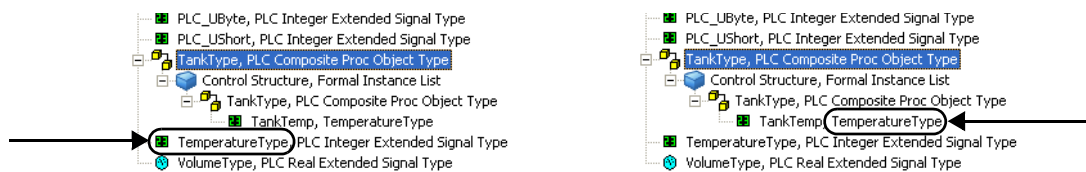

Figure 8. Signal Type (Left), and Reference (Right)
19. The last part of the instance name shows its type, see also Figure 8.